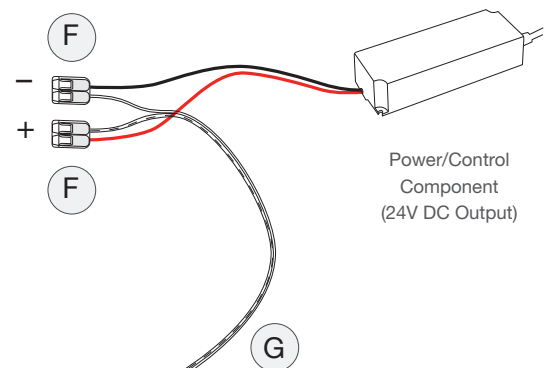

Figure 8
Power lead (G): Use the power lead (G) to route power from the power supply to a single sheet or a set of up to eight LED Sheets. See Figure 8.
Wago splicing connectors (F): The Wago® connectors (F) are provided for convenient power connection to the supply wires. They can be used in place of wire nuts, securing wires of the same polarity together. The grey striped wire of the power lead (G) is positive (+) and the solid white wire is negative (-). See Figure 8.